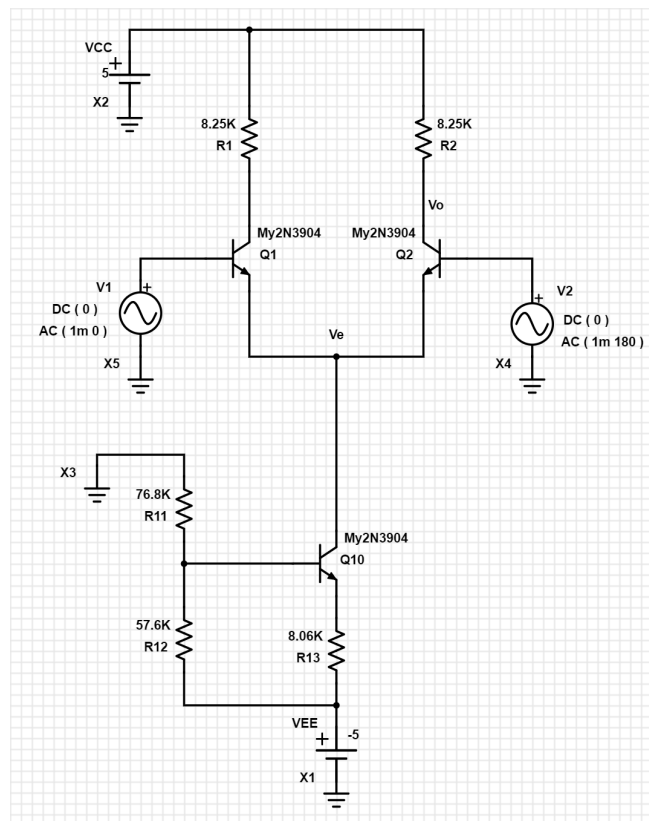

Fig. 5 Schematic diagram of the differential amplifier for differential-mode analysis
- 3.1 We want to analyze its characteristics for DC differential-mode signal V_{DM} , followed by the AC common-mode signal v_d . Here the voltage sources V_1 and V_2 in Fig. 5 provide both DC and AC voltages to the inputs of the differential amplifier.
- 3.3 **Frequency Response:** Set the DC values of V_1 and $V_2 = 0$ V, and their AC amplitude 1 mV. For the differential-mode signal, set the phases of the AC signal V_1 and V_2 to be 0° and 180° , respectively, as shown in Fig. 5. In this setting, the differential-mode signal $v_{id} = V_1 - V_2 = 1$ mV – $(-1$ mV) = 2 mV. Conduct AC analysis for V_o in DEC with Start Frequency = 100 Hz, Stop Frequency = 10 MHz, and Total Points Per Decade = 101. Choose REAL for magnitude unit and degree (DEG) for phase unit. Record the simulated magnitude and phase of V_o in the sheet “Step 3.3 of the Excel file “Lab 2 – Single-Stage Amplifier.xlsx”.
- 3.4 Based on Fig. 5, construct the measurement setup for the differential amplifier. Use $V_+ = 5V$ for V_{CC} , $V_- = -5V$ for V_{EE} , Wavegen 1 (W1) for V_1 and Wavegen 2 (W2) for V_2 . Connect GNDV+, GNDV-, GNDW1, and GNDW2 to a common ground line.